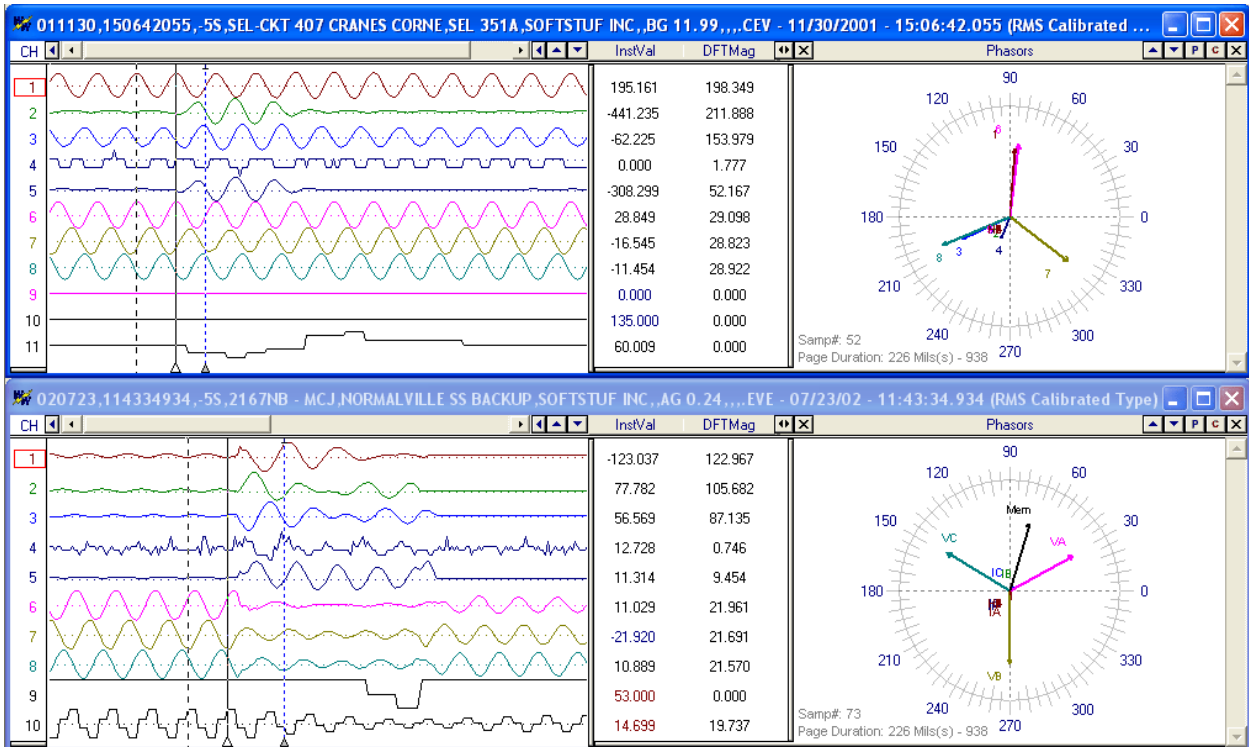

Figure 1.53 Merge Open Files – Manually: Select Channels & Position Data Bars
- Manually: Use the data bars to highlight where the common sample time is in each window. Merge manually will then line up the data bars and adjust the time stamps accordingly. This option is used when the file times are not synchronized. The active window determines the time stamp of the new merged file and the open window with the smallest number of samples determines the length of the new merged file. Refer to Figure 1.53 & 1.54.